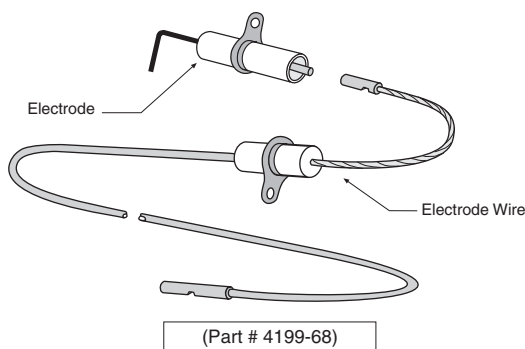
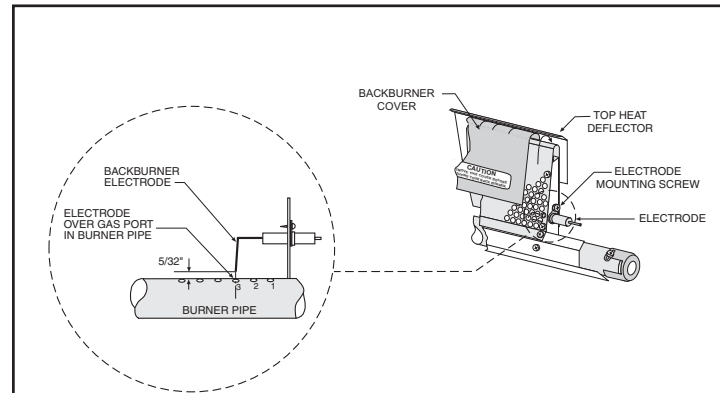

Figure 1
Figure 3
1. Remove the backburner cover and unplug the backburner electrode wire (Figure 1 and 3).
4. Use a 1/4" socket screwdriver or a small wrench to remove the electrode mounting screw (Figure 3). Check the new electrode to see if the plug on the electrode wire matches the plug on the new electrode (Figure 1). If the plug fits, inspect the electrode wire insulation for fraying or other damage. If the plug doesn't fit, the wire must be replaced at this time.